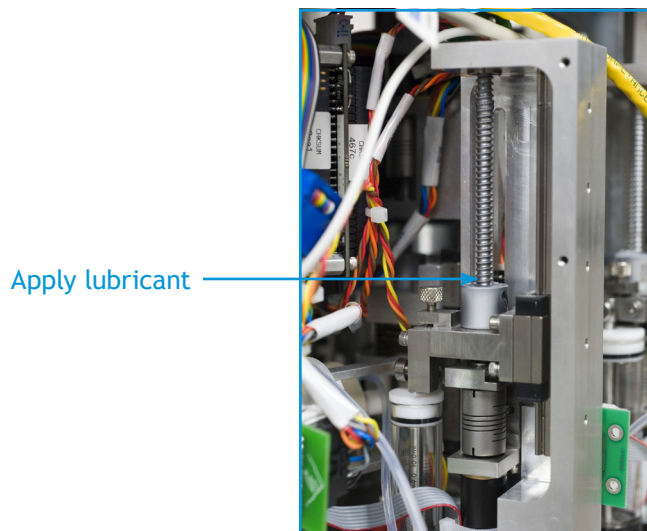

Figure 5-5: Ballscrew
1. Apply a small amount of lubricant to the shaft of the ballscrew, just above the nut. See Figure 5-5.